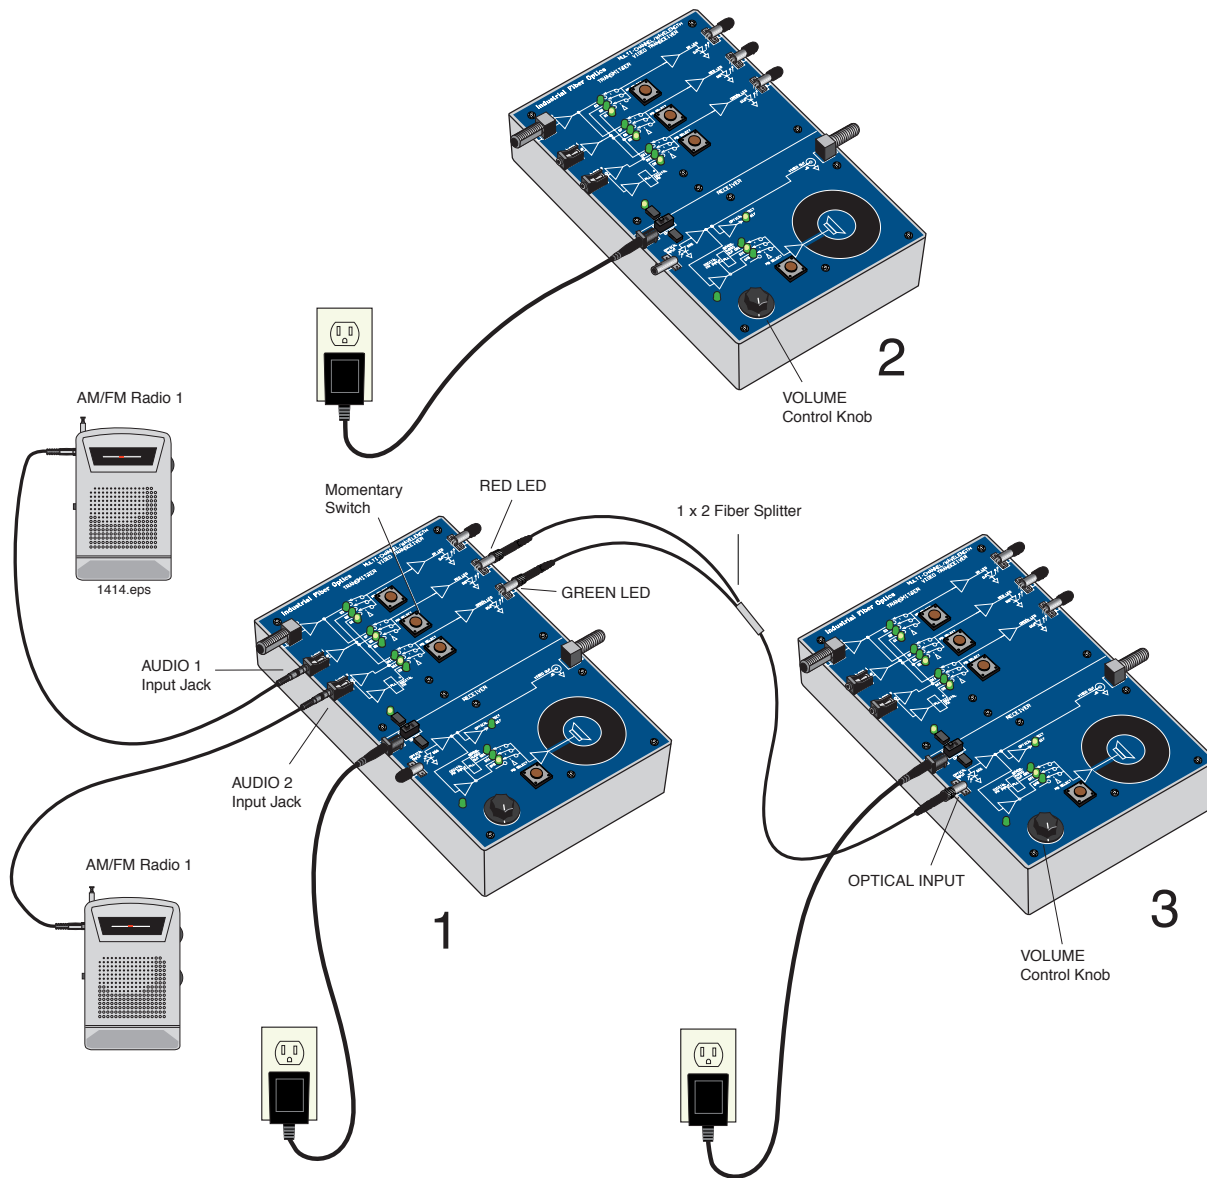

Figure 31. Equipment setup for Experiment B of Activity 9.
1. In this experiment you will combine the optical signals from the red and green LEDs with a fiber coupler. You will then listen at one of the transceivers for the combined signals. Your equipment set-up should look like Figure 31 when assembled properly.
4. Take the remaining fibers from the 1 × 2 fiber coupler and attach to the red and green LED receptacles on Transceiver 1 as shown in Figure 31.